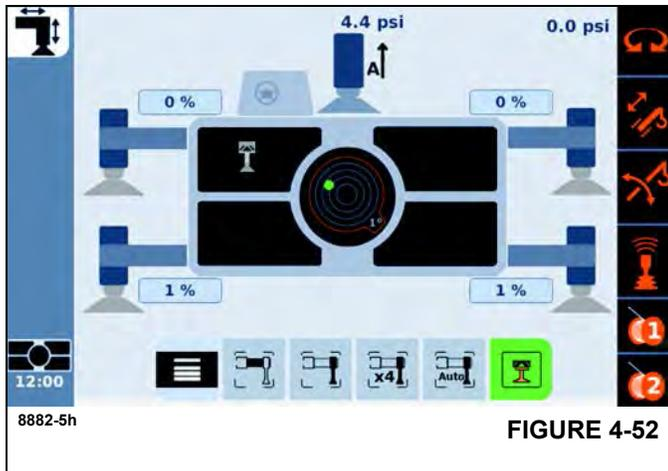

FIGURE 4-52
- **From the ODM:** HOLD Retract and hit the center front stabilizer Icon as shown in green in (Figure 4-52). Also, refer to the Retract Switch in the Left-Hand Armrest.